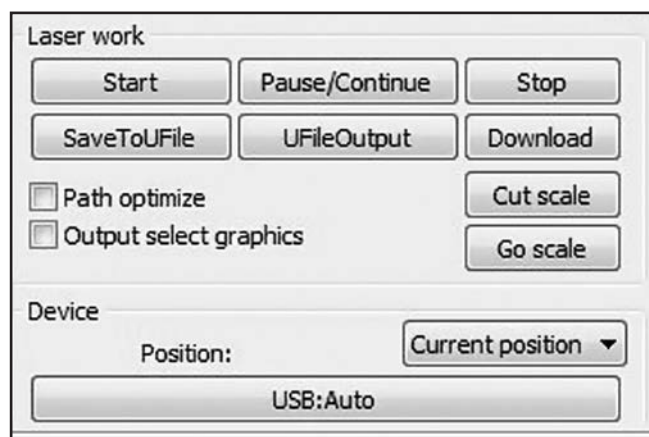

Figure 35. Output panel controls.
1. Change "Device" setting of output panel to "USB:Auto" (see **Figure 35**).
3. Select "SaveToUFile" (see **Figure 35**), navigate to USB flash drive, and select "Save."
6. Click "Ok" to return to output panel (see **Figure 35** on **Page 35**).